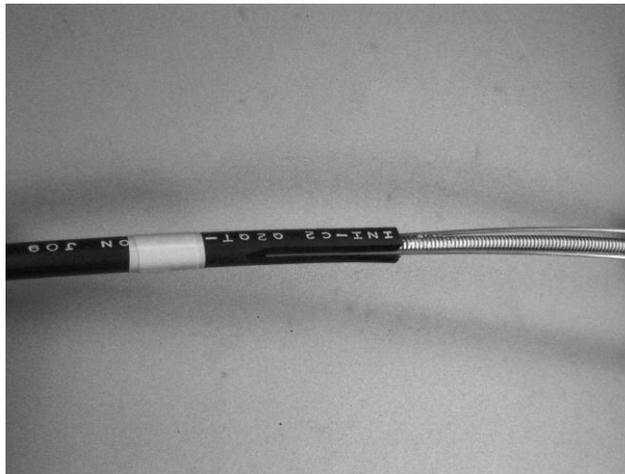

Figure 10 – Remove the cable jacket to expose the strength members and corrugated armor.
3.2 Remove the cable jacket as described in OFS IP-038, *Sheath Removal for Mini LXE, Mini C2, and Mini C2 DT Optical Fiber Cables*. Expose the strength members about 3-1/2 in. beyond the end of the outer jacket as shown in Figure 10.